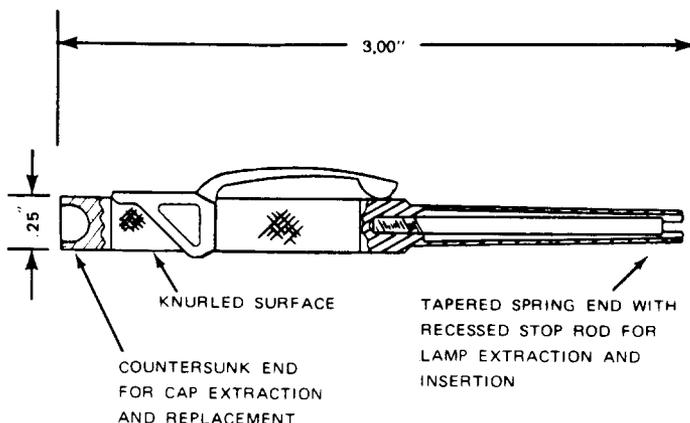

Fig. 1—Extractor, KS-21144 L1
**2.01** The KS-21144 extractor (Fig. 1) is a double-ended tool with a countersunk hole at one end for removing and replacing a lamp cap. The other end is equipped with a tapered slotted spring which is used for removing and replacing lamp bulbs. The extractor is also equipped with a pocket clip.